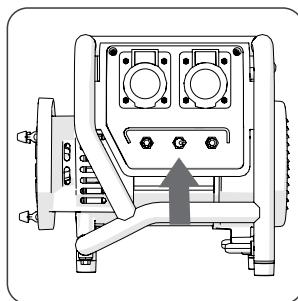

Fig. 2 (UK Professional version shown)
- If applicable select the voltage required by setting the selection switch to 230V or 110V. (**Fig. 2**)